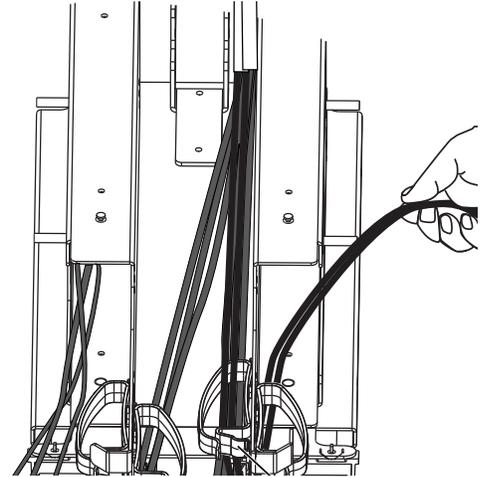

Figure 8
**Step 3:** Open the first clip (“A”) (Figure 8) in the middle compartment.